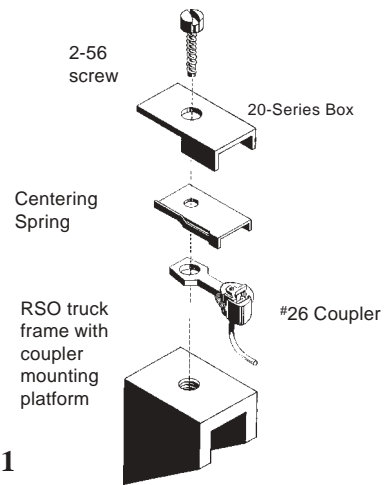

Fig.1
4. Assemble the coupler to the platform per Fig.1.